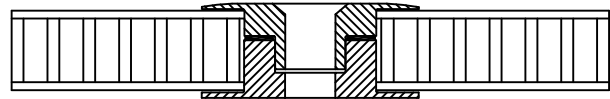

FIGURE 3
- F. Press the inserts together until they bottom out on the panel surfaces. See figure 3.